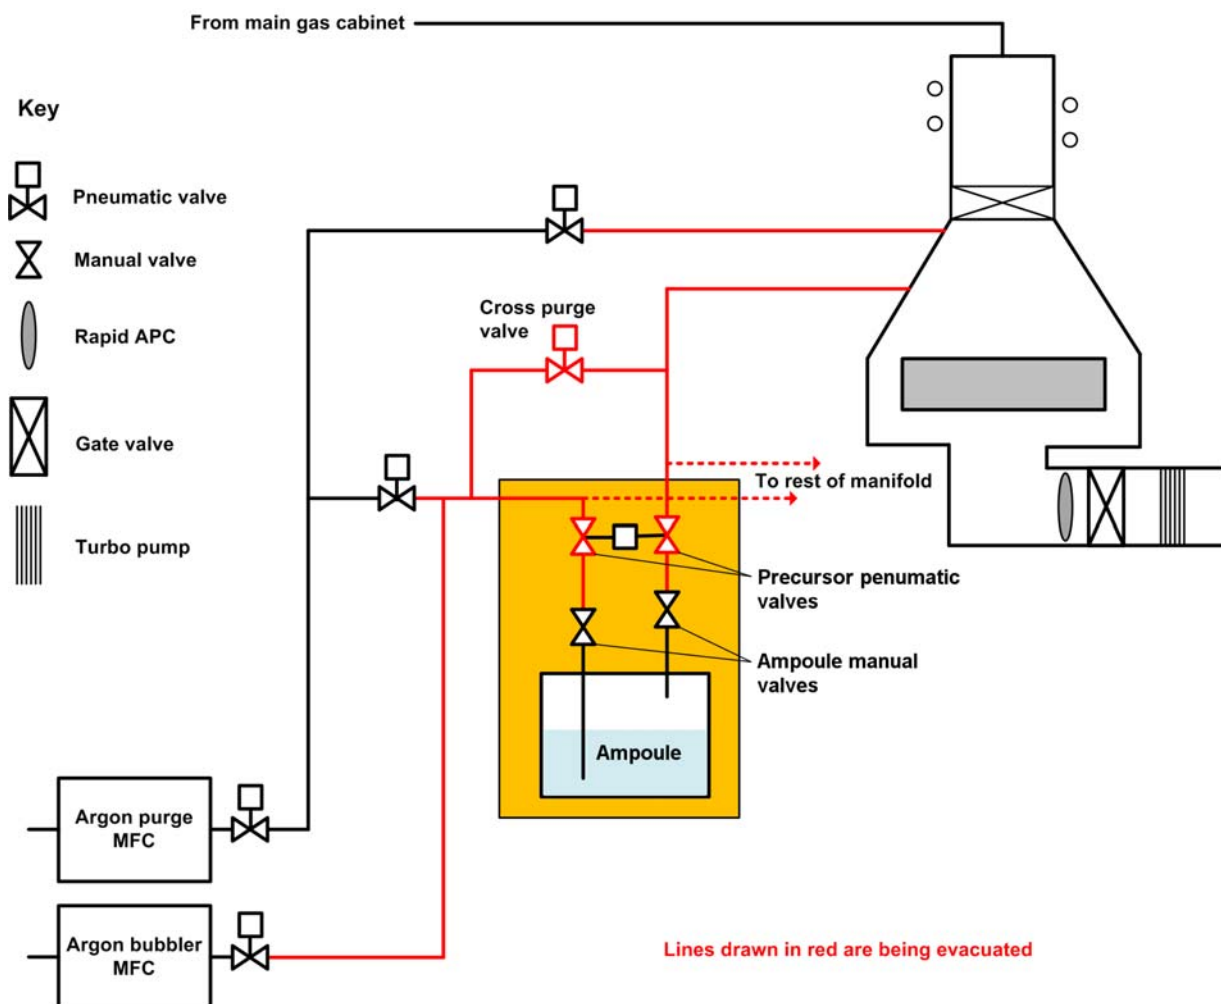

Figure 3-7 Pumping and purging the delivery lines on a manifold
- 2 Using the keyswitch, open the cross-purge valve on the selected manifold (see Figure 3-7). This enables the inlet or purge manifold to be pumped. Re-start this section if an over-pressure alarm shuts down the process. If more than three over pressure alarms occur consecutively, investigate for a vacuum leak on the ampoule fittings.